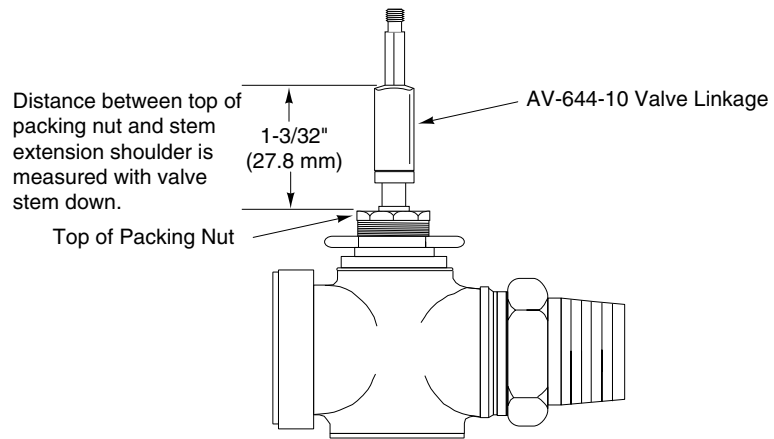

Figure-5 Stem Dimension Requirements for MF-221xx Series Actuators.
13. Screw the stem extension onto the valve stem. Adjust the stem extension to the height specified for the selected actuator model. Refer to Figure-5. This dimension is the distance from the top of the packing nut to the shoulder of the stem extension.